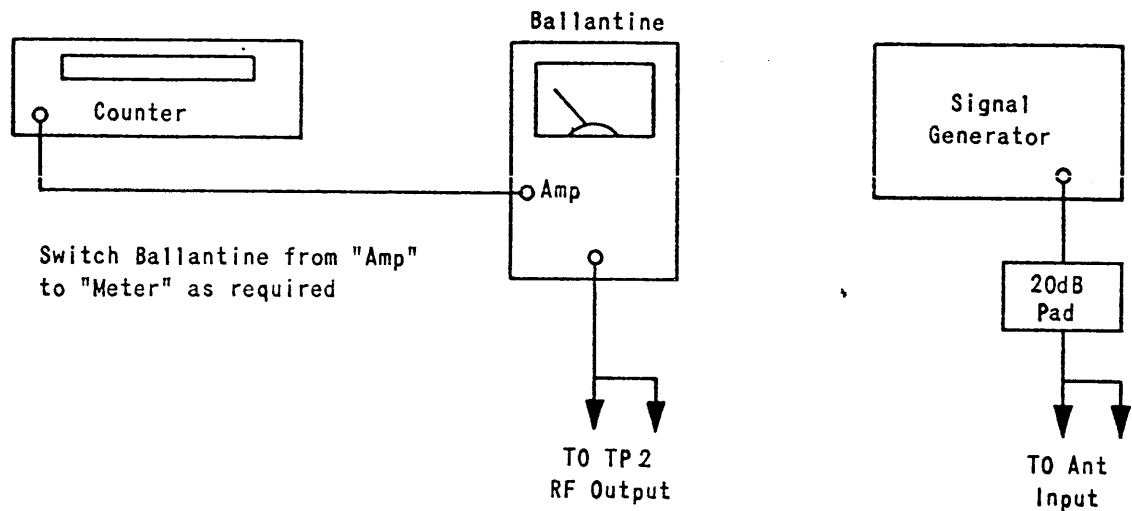

FIGURE 3-1
3.5 RF ALIGNMENT: Connect the counter, Ballantine VTVM and Signal Generator as shown on Figure 3-1.